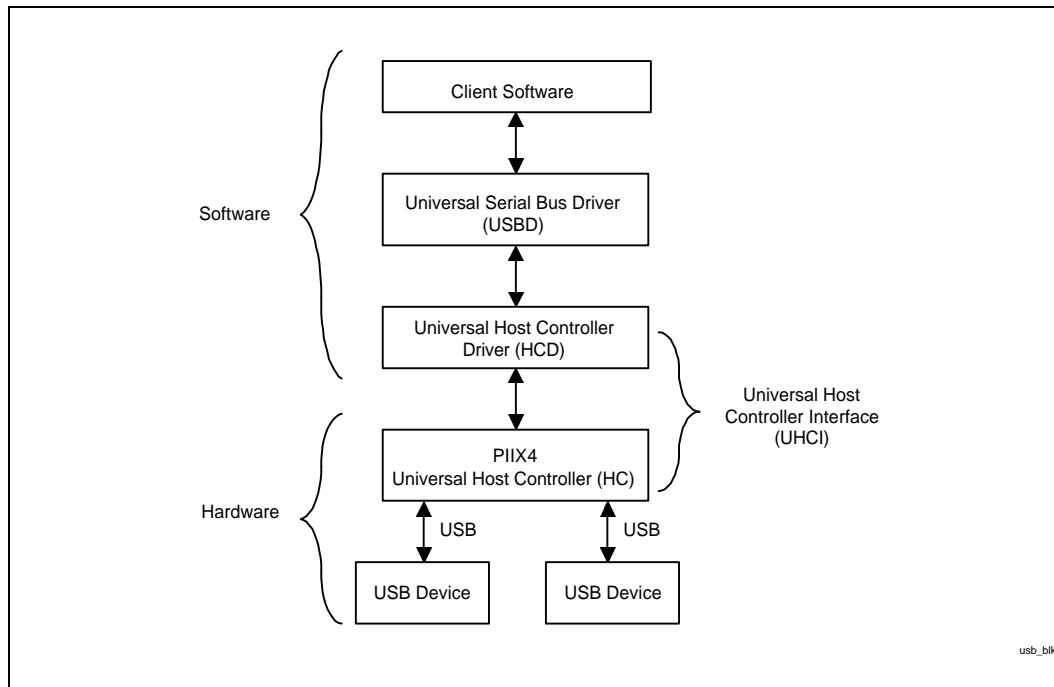

Figure 9. USB System Conceptual View
PIIX4 contains a USB Host Controller (HC). The Host Controller includes the root hub with two USB ports. This permits connection of two USB peripheral devices directly to PIIX4 without an external hub. If more devices are required, an external hub can be connected to either of the built-in ports. The USB's PCI configuration registers are located in function 2, PCI configuration space. The PIIX4 Host Controller completely supports the standard Universal Host Controller Interface (UHCI) and thus, takes advantage of the standard software drivers written to be compatible with UHCI. Figure 9 shows a conceptual view of a USB system. UHCI consists of two parts—Host Controller Driver (HCD) and Host Controller (HC). The Host Controller interfaces to the USB system software in the host via the HCD. The HCD software manages the Host Controller operation and is responsible for scheduling the traffic on USB by posting and maintaining transactions in system memory. HCD is part of the system software and is typically provided by the operating system vendor. HCD provides the software layer between the PIIX4's Host Controller and the USB software layer (also located in the operating system). The UHCI's HCD software interprets requests from the USB software and builds Frame List, Transfer Descriptor, Queue Head, and data buffer data structures for the Host Controller. The data structures are built in system memory and contain all necessary information to provide end-to-end communication between client software in the host and devices on the USB.